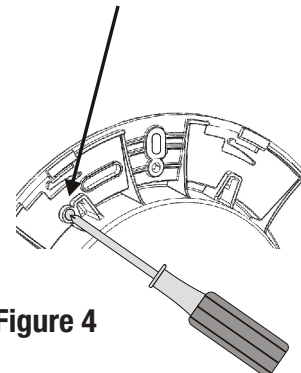

Figure 4
**To remove the Universal ColorLogic/CrystaLogic LED Light from the LFGUY1000 Niche:** Remove the trim ring by turning it counter clockwise. If removal is difficult, carefully insert a flat head screwdriver in one of the four front slots to help rotate the trim ring. With the trim ring removed, insert a #2 phillips head or any small screwdriver into the access hole as show below (Figure 4). Pushing straight into the hole will release the lock, allowing you to rotate the light counter clockwise. Remove the screwdriver and continue to rotate the light until it can be removed from the light fixture.